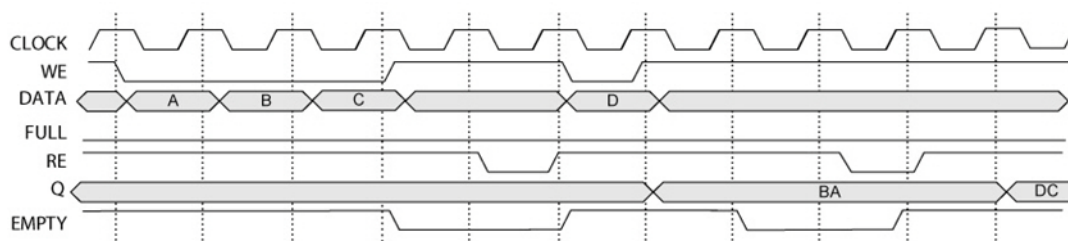

Figure 3-3 • Write and Read Operations with a Variable Aspect
- **Full flag generation** - The FULL is asserted when a full word from the write perspective cannot be written in. The FULL de-asserted only if there is enough space in the FIFO to write a full word from the write aspect ratio. (refer to the timing diagram in Figure 3-3)
- **Empty flag generation** - The EMPTY is de-asserted only when a full word from the read aspect ratio can be read out. The EMPTY is asserted if the FIFO does not contain a full word from the read aspect ratio (refer to the timing diagram in Figure 3-3).
Figure 3-3 illustrates a condition where the write side is configured has x4 width and the read side as x8 width.